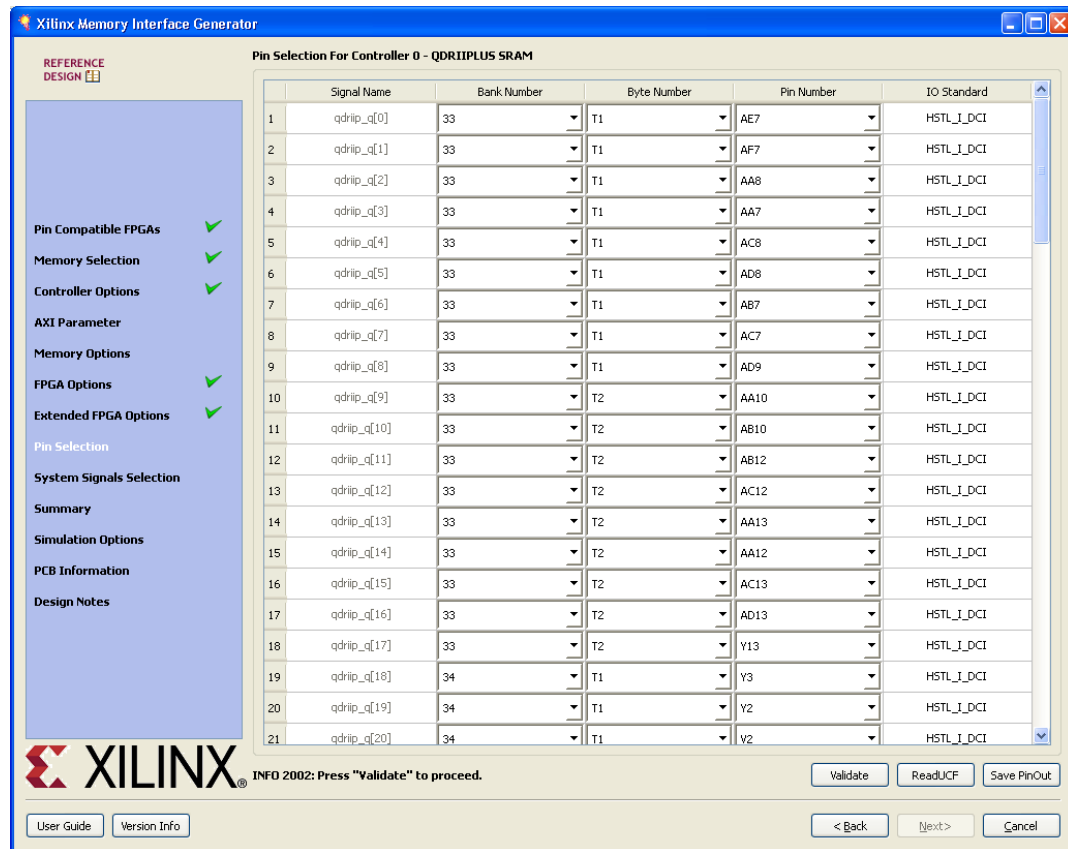

Figure 2-24: Pin/Bank Selection Mode
- Pin/Bank Selection Mode** – This allows you to specify an existing pinout and generate the RTL for this pinout or pick banks for a new design. Figure 2-24 shows the options for using an existing pinout. You must assign the appropriate pins for each signal. A choice of each bank is available to narrow down the list of pins. It is not mandatory to select the banks prior to selection of the pins. Click **Validate** to check against the MIG pinout rules. You cannot proceed until the MIG DRC has been validated by clicking **Validate**.